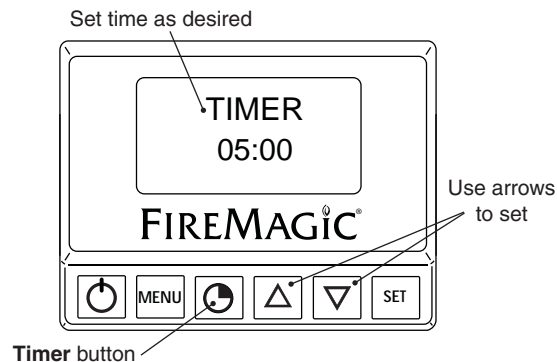

Fig. 15-1 Timer screen
1. Press the timer button. Use the arrows to set the desired amount of time (see Fig. 15-1.)